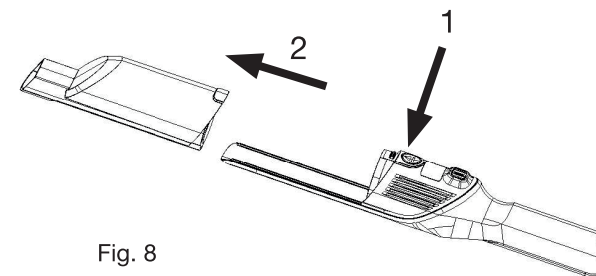

Fig. 8
Press the dust container unlock button (1) (Fig. 8) to open it. Next, remove the dust container by sliding along the rail in the direction indicated by the arrow (2).